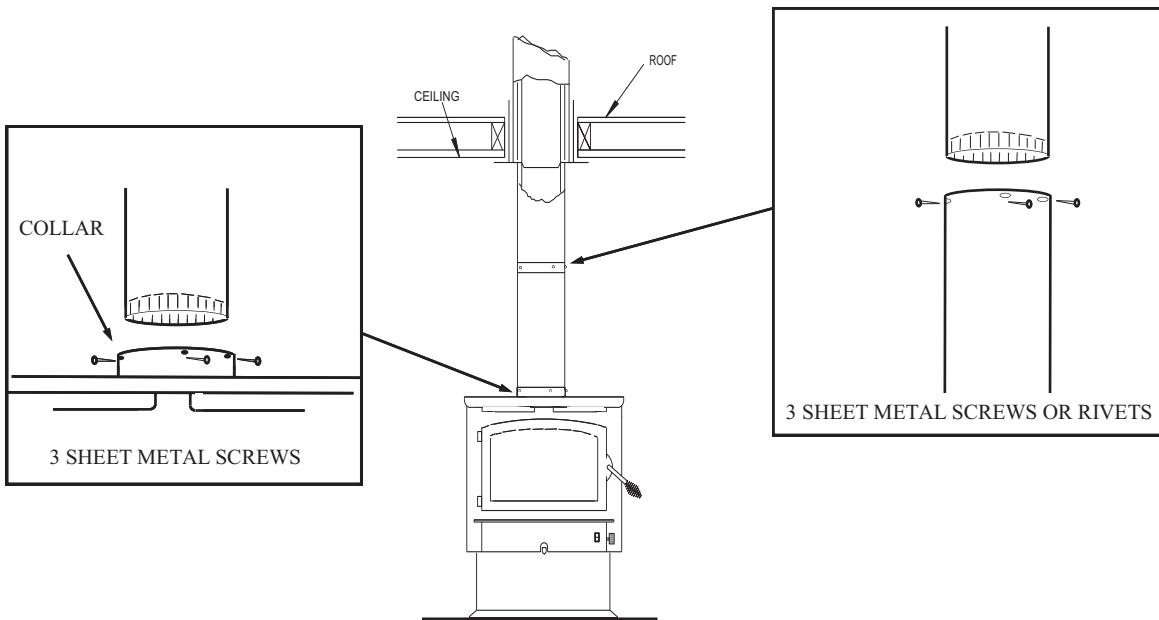

Figure 14
1. Suspend a plumb bob from ceiling above unit so that weight is hanging in center of flue exit. (A small weight on a string will serve as a plumb bob). Mark ceiling where string is suspended to locate center of chimney. (See Page 16, Figure 14).
Now connect stove and ceiling support box using #24 ga. minimum blue or black steel connector pipe (**DO NOT USE GALVANIZED PIPE**). Connect each section so crimped end faces downward and secure each section to each other using at least three (3) sheet metal screws or rivets. Also use three (3) sheet metal screws to fasten pipe to collar on heater. (See Page 16, Figure 14).
5. Connect chimney connector to tee-box using #24 ga. minimum blue or black steel connector pipe. **DO NOT** use galvanized pipe. Connect each section so the crimped end faces downward and secure each section to each other using three (3) sheet metal screws or rivets. (See page 15 Figure 14).
- (c) Secure each section to each other using at least three (3) sheet metal screws or rivets. (See Page 15, Figure 14).
- (d) Use three (3) sheet metal screws to fasten pipe to connector collar on heater. (See Page 15, Figure 14).